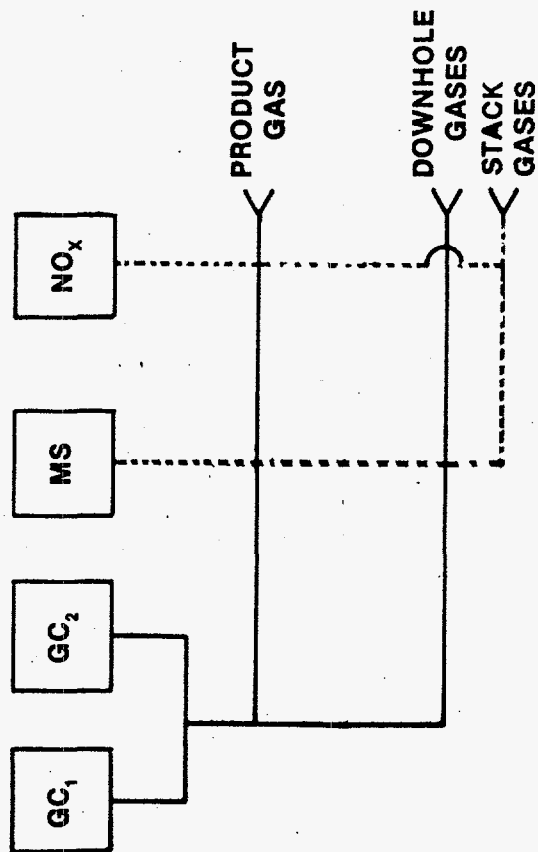

Figure 5
3. Gas Composition Data. The gas composition of the product and monitoring wells gas streams is analyzed by mass spectrometric and gas chromatographic methods using a Perkin-Elmer Model MGA 1200 mass spectrometer system and two Bendix Model 7170 process chromatograph systems; and a chemiluminescent NO/NO_x analyzer dedicated to the product gas stream. Figure 5 is a schematic showing the relationship between the analytical systems and the gas streams.